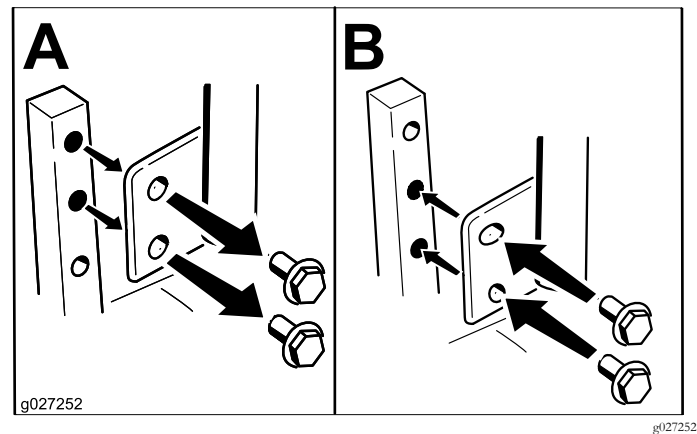

Figure 12
You can adjust the motion-control levers higher or lower for maximum comfort (Figure 12).
2. Loosen the lower bolt just enough to pivot the control lever forward or rearward (Figure 12).